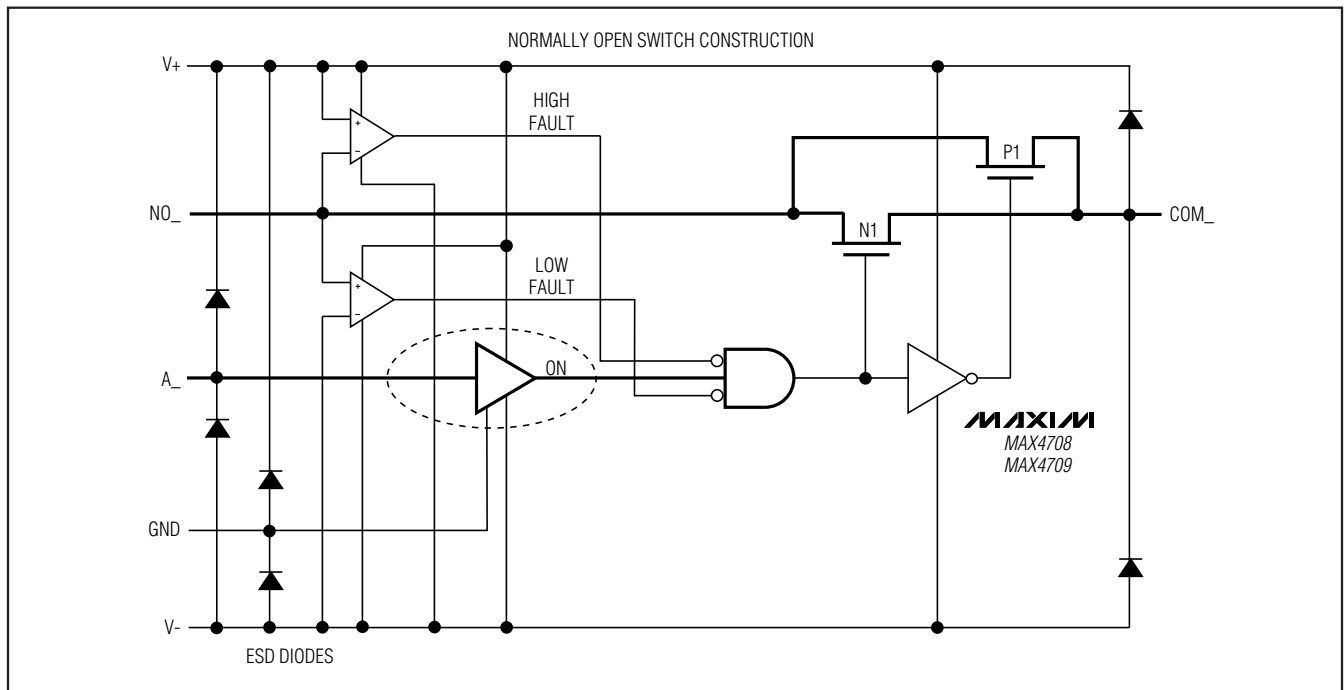

Figure 1. Functional Diagram
Figure 1 shows the internal construction of a single normally open (NO) switch, with the analog signal paths shown in bold. The parallel combination of N-channel FET N1 and P-channel FET P1 form the analog switch. During normal operation, these FETs are driven on and off simultaneously according to the control voltages on A_o. During a fault condition, both FETs turn off.
on NO_o ranges between V₊ and V₋, the multiplexer operates normally, with FETs N1 and P1 turning on and off in response to the control signals on A_o (Figure 1). When the switch state is on, the parallel combination of N1 and P1 forms a low-value resistor between NO_o and COM_o so that signals pass equally well in either direction. When the switch state is off, both NO_o and COM_o are high-impedance inputs.